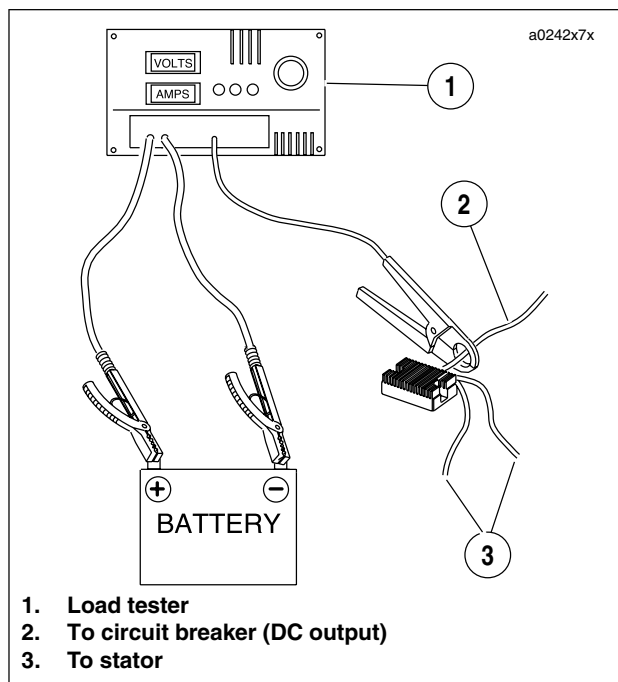

Figure 7-48. Current and Voltage Output Test
1. See Figure 7-48. Connect load tester.
1. See Figure 7-48. After removing the load, read the load tester voltage meter.